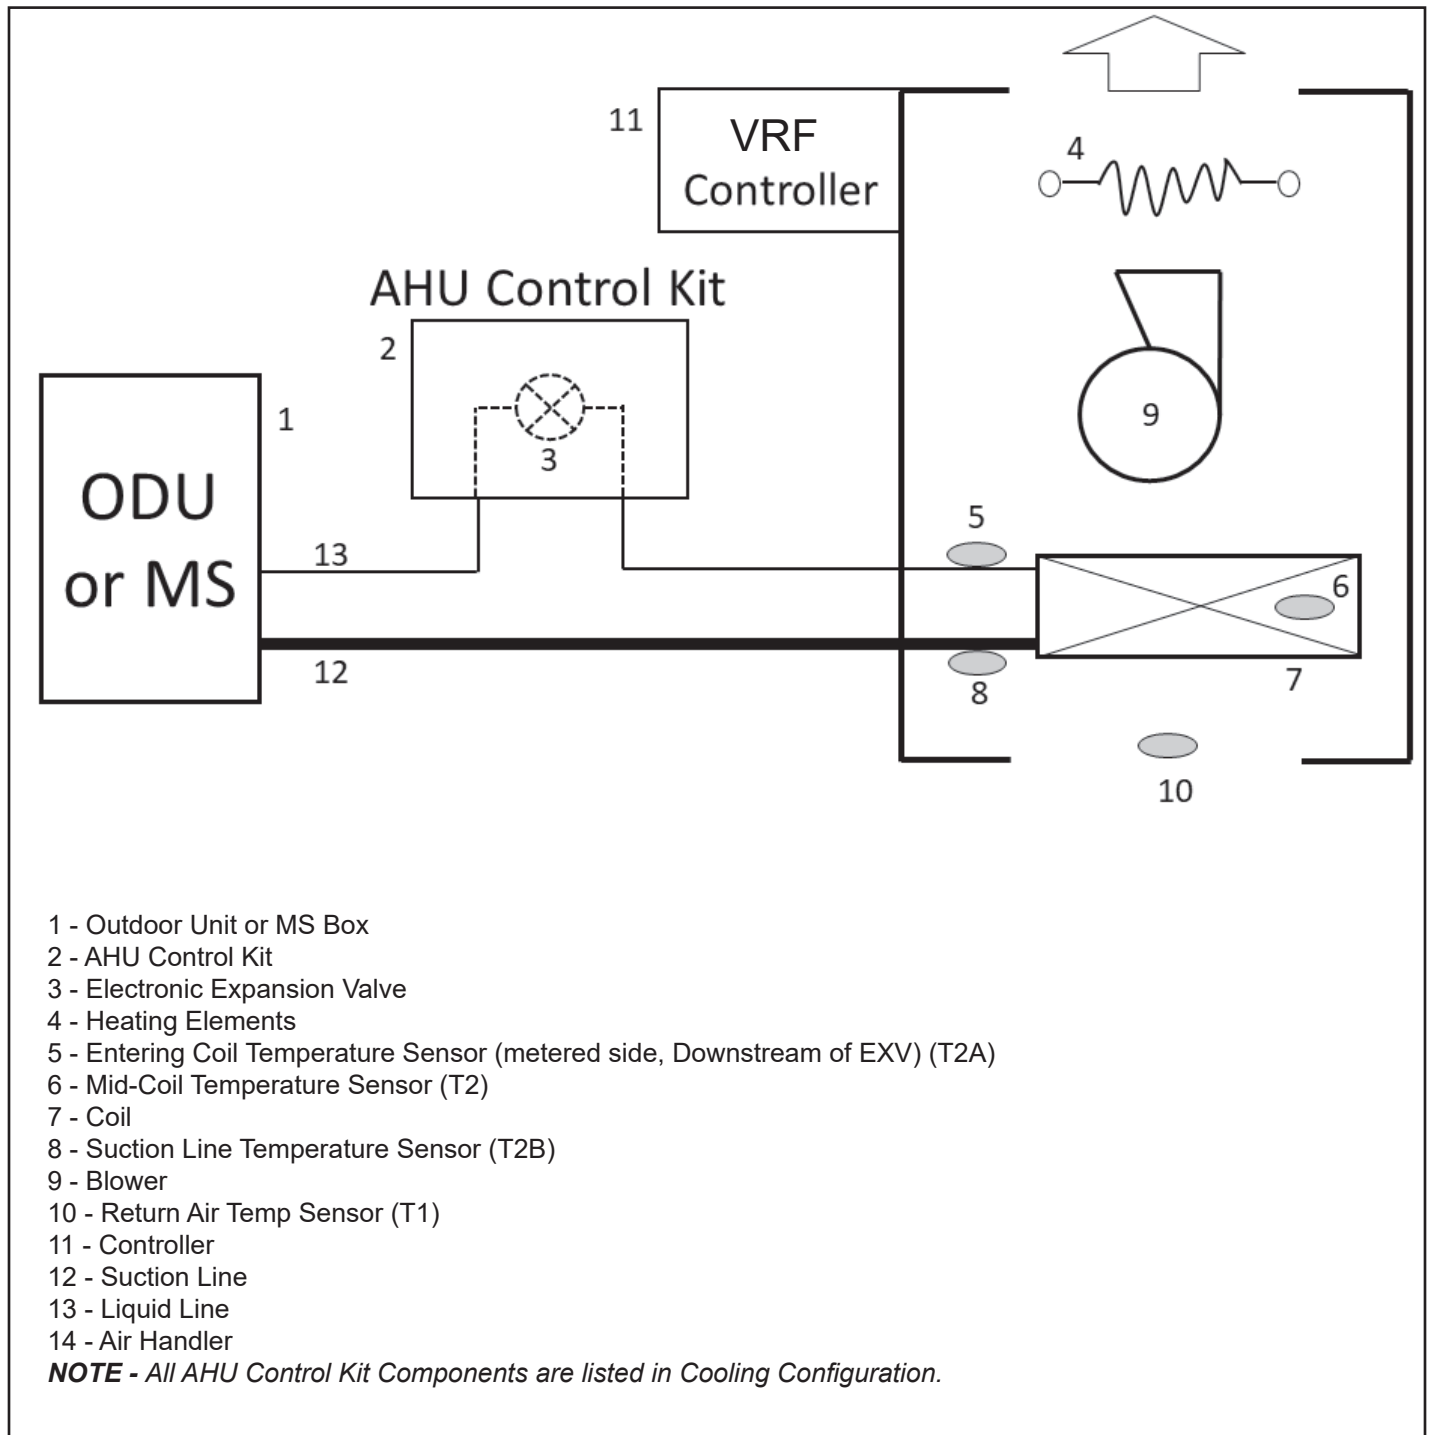
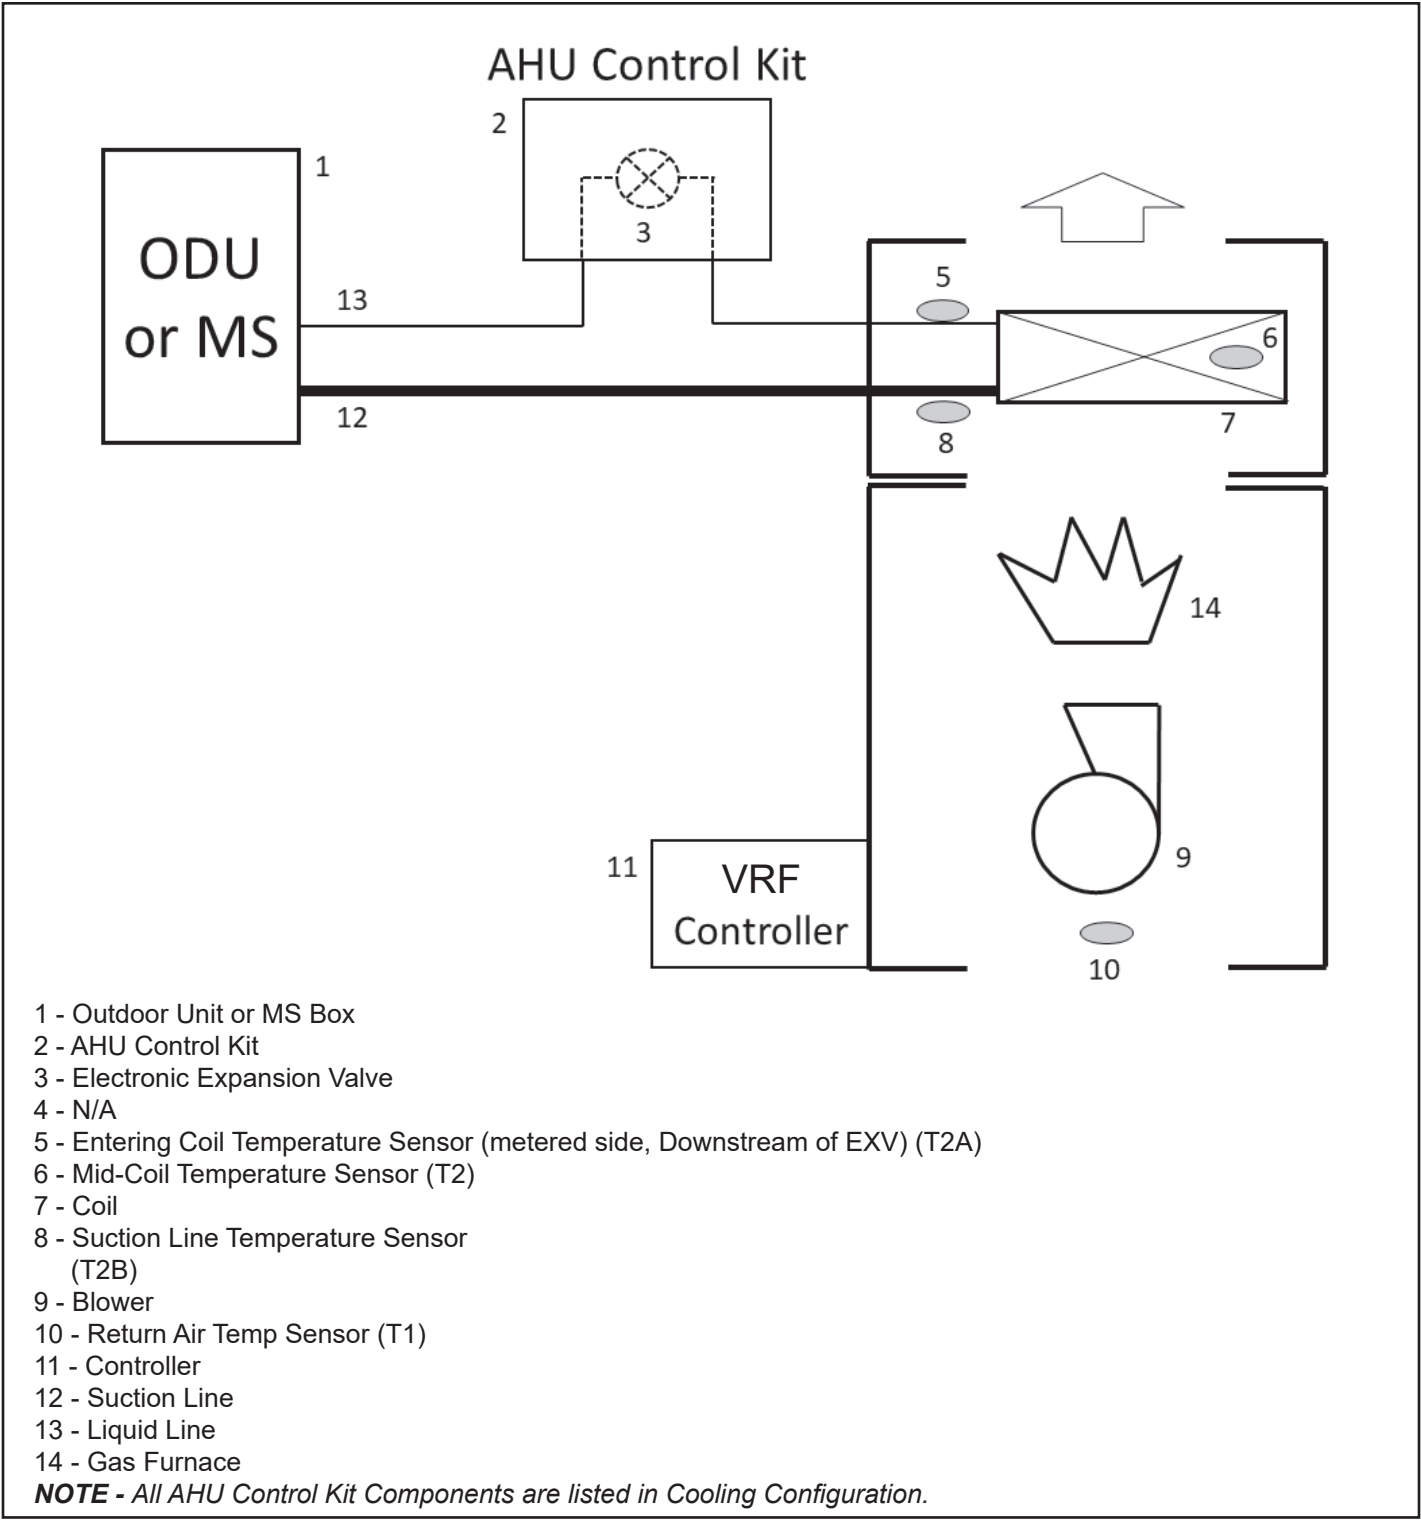

Figure 1. Electric Air Handler with Electric Auxiliary Heat & AHU Control Kit
Figure 2. Gas Furnace & AHU Control Kit
Throttling devices (TXV, orifice, piston and cap tube, etc.) in the indoor unit shall be removed, additional modifications may be needed. Only Lennox VRF wired local controller V0STAT51P-3 is allowed with the AHU Control Kit. Two typical application layouts are shown in Figure 1 and Figure 2.
- Throttling devices (TXV, orifice, piston and cap tube, etc.) in the indoor unit shall be removed, additional modifications may be needed. Only Lennox VRF wired local controller V0STAT51P-3 is allowed with the AHU Control Kit. Two typical application layouts are shown in Figure 1 and Figure 2.